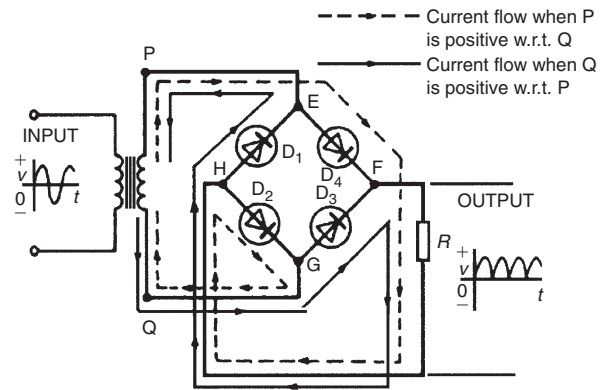

Figure 14.17
Four diodes may be used in a **bridge rectifier** circuit, as shown in Fig. 14.17, to obtain **full-wave rectification**. (Note, the term 'bridge' means a network of four
*Following the broken line in Fig. 14.17:*
*Following the full line in Fig. 14.17:*